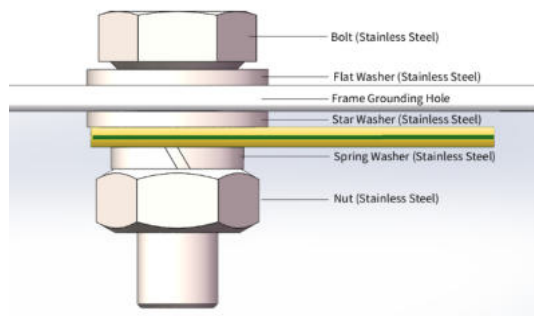

Figure 21 Schematic diagram for installation of grounding wire fastened by bolt
- When connected in parallel, the output current of the whole string of modules is equal to the sum of the current of each branch module or module string (the parallel connection mode is shown in Figure 21). Each string of modules shall be equipped with a fuse. The reference formula for the maximum number of modules in parallel connection: maximum protective current/(1.25 * short-circuit current). Please refer to the national or regional or local specifications for details.